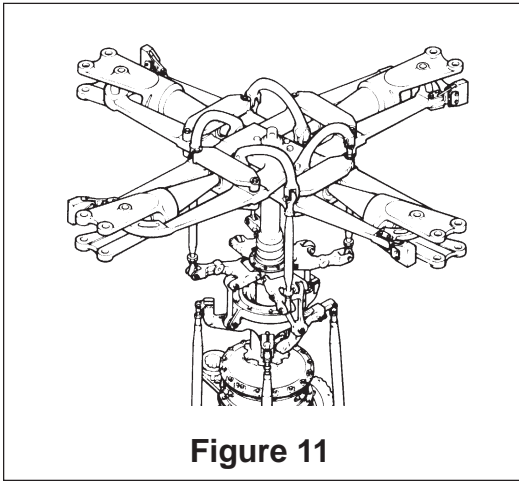
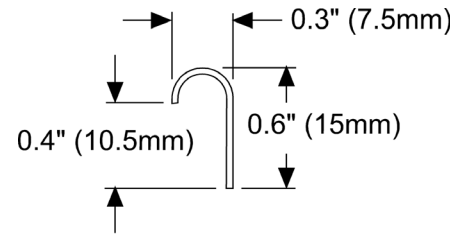

Figure 11
Figure 10
3. The pitch control arms can be made from plastic rod, stretched sprue or brass wire in an inverted J shape as shown in Figure 10. These arms are definitely simplified ... refer to Figure 11 for more details if you wish to try adding more fidelity. Note that because of the overlapping nature of the rotor head main beams, two of these arms will be 0.05" (1.5mm) longer than the other two. Glue the bottom of these arms into the sockets at